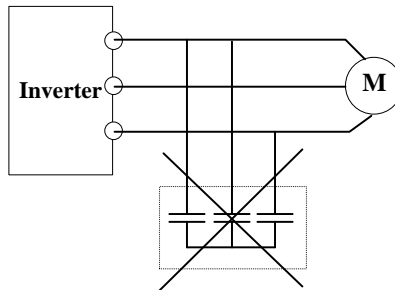

Fig 1-6 Capacitors are prohibited to be used
- Do not connect any varistor or capacitor to the output terminals of the drive, because the drive's output voltage waveform is pulse wave, otherwise tripping or damaging of components may occur; in addition, do not install circuit breaker or contactor at the output side of the drive as shown in Fig 1-6.